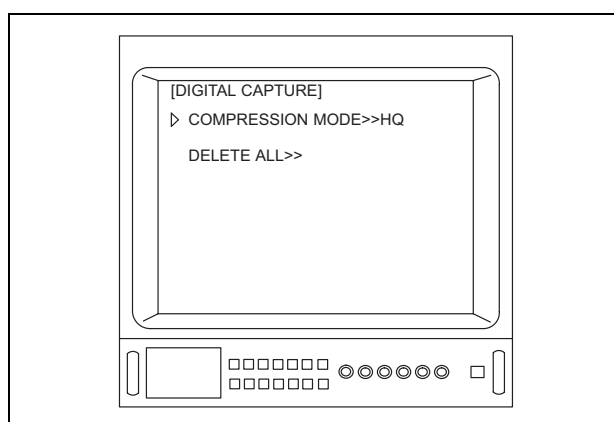

Figure 5.95
6. Depress the menu switches “◀” or “▶”, or the “↑/↓/←/→” key on the keyboard to move the arrow “▷” to “COMPRESSION MODE” (see Figure 5.95).
Depending upon the OTV-S7V's settings, the menus shown in Figures 5.95 and/or 5.96 may appear different from those displayed on the video monitor.